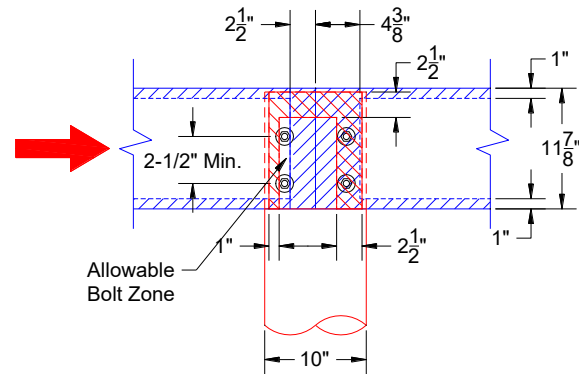

Figure 7: Lateral Design (Spliced Beam) (Load transfer hardware such as a strap across beams may be required by the DOR).
- In Figure 7, the lateral compression load coming from the left cannot be assumed to bear equally on all four bolts, because the members may not be in tight contact. In addition, the end and edge distances for the two bolts on the right do not meet the NDS® requirements. Therefore, only the left two bolts are effective for this loading condition. If a tension load were applied to the beam, the loaded edge distance from the bolts to the edge of the pile would not meet the minimum NDS® requirement, so the connection should not be assigned a capacity for a tension load on the beam.